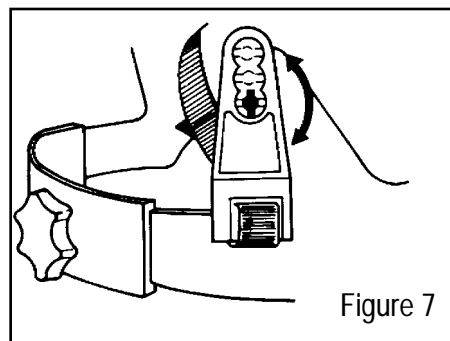

Figure 7
1. Rotate hanger key 90° in either direction until hole in hanger key aligns with post on headband. Pull key away from headband. (Figure 7).
3. Rotate hanger key 90° toward headband until key locks in place (Figure 7).